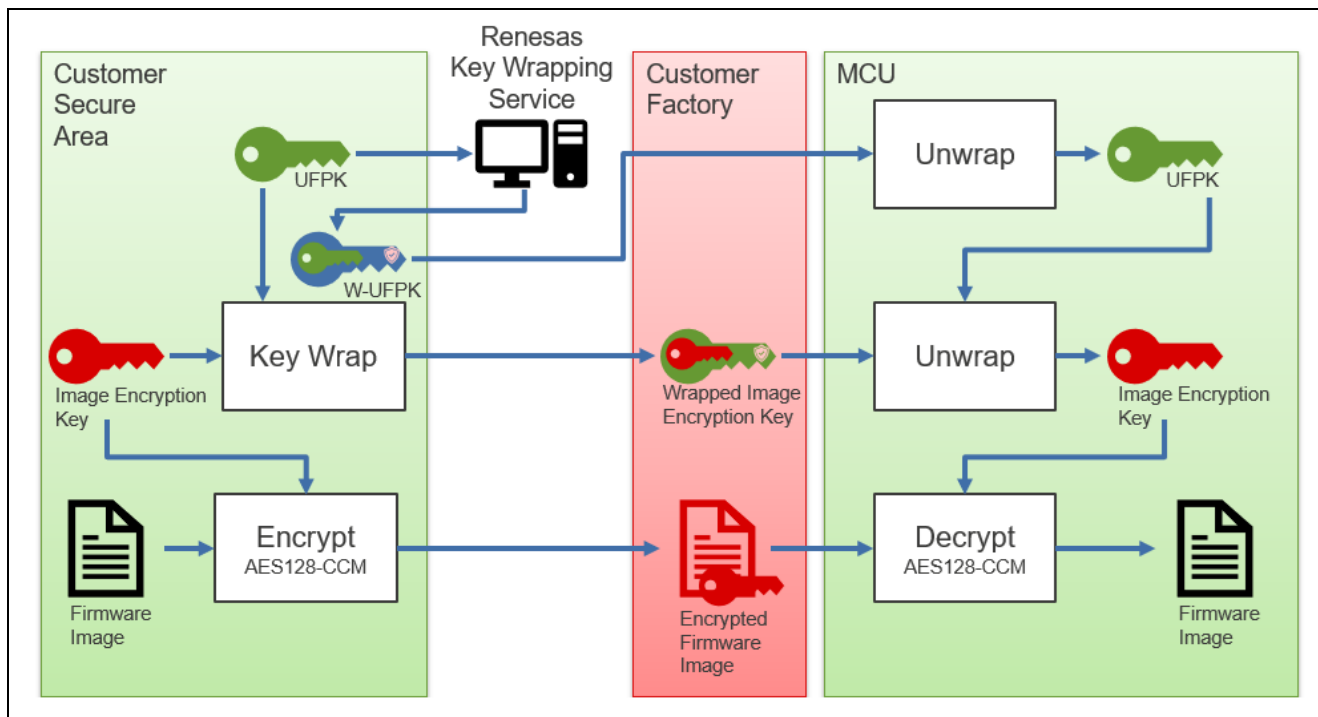

Figure 2. Secure Factory Programming Process
Figure 2 provides a conceptual presentation for the Renesas SFP process.
- **Security Key Management Tool (SKMT):** This tool implements a procedure to encrypt the firmware image to support the Secure Factory Programming concept described in Figure 2. Once the firmware image encryption is complete, the tool generates a secure programming file, which includes the encrypted firmware image, the W-UFPK, the Wrapped Image Encryption Key, and the optional Wrapped Authentication Level Keys. This file will be required for the secure programming operation.